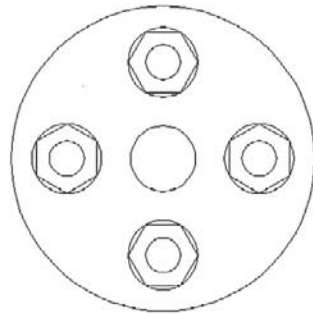

FIGURE 8.8
- Step 6.** Array the bolt around the top view four times, as shown in Figure 8.8.